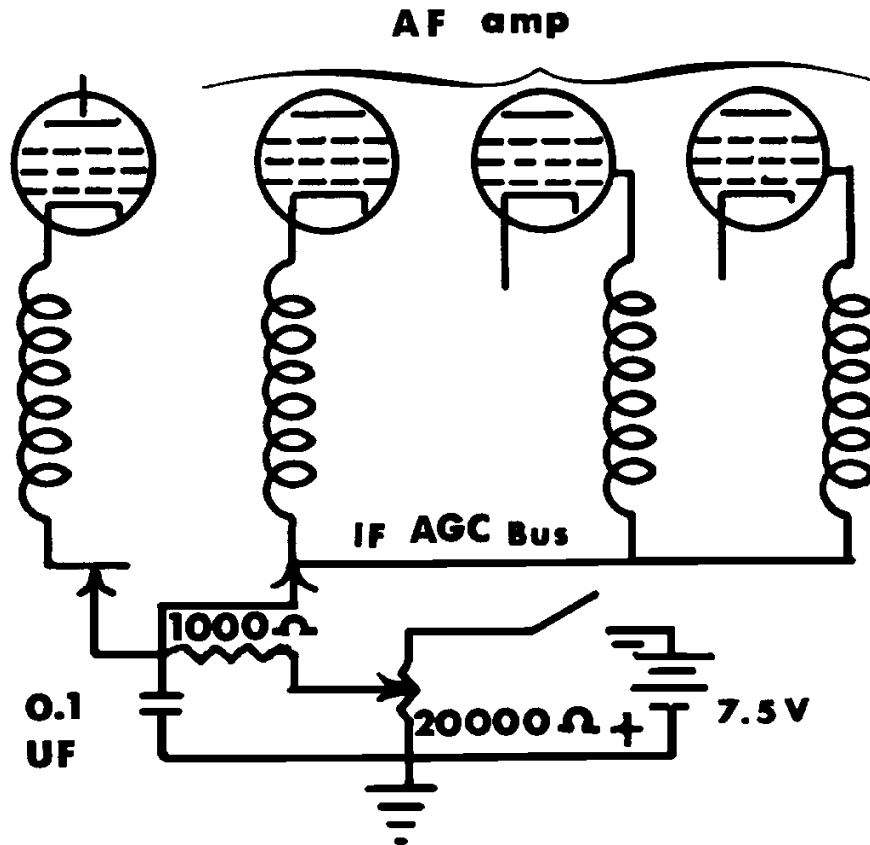

FIG. 1. ELIMINATING AGC AND USING FIXED BIAS
**NOTE:** Agc troubles may cause r-f or i-f amplifiers to appear weak, dead, or intermittent. Where doubtful, eliminate agc for the test and use fixed bias as shown in Fig. 1.
Locating a weak or faulty stage by gain measurements: The procedures already described are applicable only to finding a dead, extremely weak, or intermittent stage. Where the fault is a definitely weak but not dead stage, it can be located by stage gain measurements. To make stage gain measurements on i-f and r-f amplifiers in receivers employing agc, disable agc and use fixed bias as shown in Fig. 1. A low bias voltage such as -1.5 volts will usually be satisfactory and provide nearly maximum gain, whereas -3 volts may be necessary to decrease the gain of high gain amplifiers or in noisy locations. A bias of -4.5 or -7.5 volts may be required if oscillation occurs at lower bias voltage.